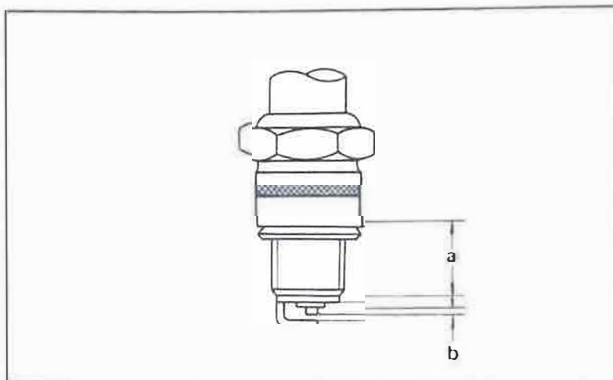

Fig. 58
(3) Spark plug – checking and adjustment (Fig. 58)